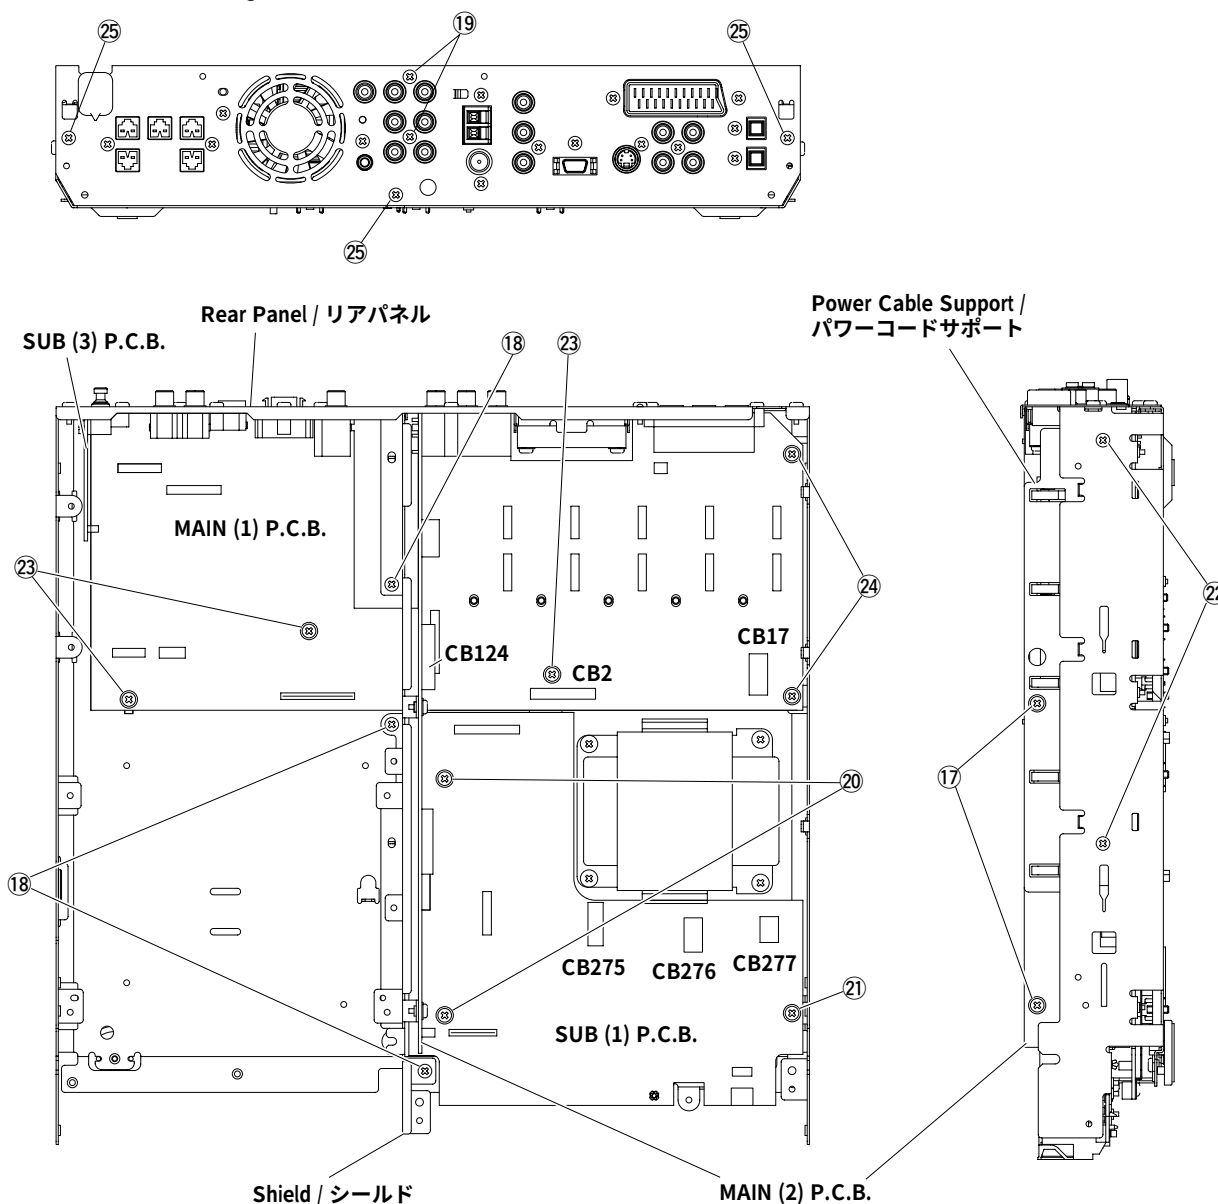

Fig. 9
9. Removal of MAIN (2) & SUB (1) P.C.B.
- Remove 2 screws (17) in Fig. 9.
- Remove 3 screws (18) and then remove the Shield in Fig. 9.
- Remove 2 screws (19) in Fig. 9.
- Remove 2 screws (20) and 1 screw (21) in Fig. 9.
- Remove connectors CB2, CB124, CB275, CB276 and CB277 in Fig. 9.
- Remove the MAIN (2) & SUB (1) P.C.B. in Fig. 9.
10. Removal of MAIN (1) & SUB (3) P.C.B.
- Remove 2 screws (22) and then remove the Power Cable Support in Fig. 9.
- Remove 3 screws (23) and 2 screws (24) in Fig. 9.
- Remove connector CB17 in Fig. 9.
- Remove 3 screws (25) in Fig. 9.
- Remove the MAIN (1) & SUB (3) P.C.B. with the Rear Panel attached to it in Fig. 9.
9. MAIN (2) & SUB (1) P.C.B.の外し方
- ⑪のネジ2本を外します。(Fig. 9)
- ⑫のネジ3本を外し、シールドを外します。(Fig. 9)
- ⑬のネジ2本を外します。(Fig. 9)
- ⑭のネジ2本、⑮のネジ1本を外します。(Fig. 9)
- コネクタCB2、CB124、CB275、CB276、CB277を外します。(Fig. 9)
- MAIN (2) & SUB (1) P.C.B.を外します。(Fig. 9)
10. MAIN (1) & SUB (3) P.C.B.の外し方
- ⑯のネジ2本を外し、パワーコードサポートを外します。(Fig. 9)
- ⑰のネジ3本、⑱のネジ2本を外します。(Fig. 9)
- コネクタCB17を外します。(Fig. 9)
- ⑲のネジ3本を外します。(Fig. 9)
- リアパネルが付いた状態でMAIN (1) & SUB (3) P.C.B.を外します。(Fig. 9)